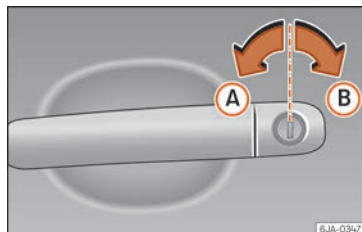

Fig. 121 Key positions during vehicle locking and unlocking.
- Turn the key in the driver door in the forward driving direction to its unlock position **A** »» **Fig. 121**.
- Turn the key in the driver door lock cylinder in the reverse direction to its lock position  »» Fig. 121.